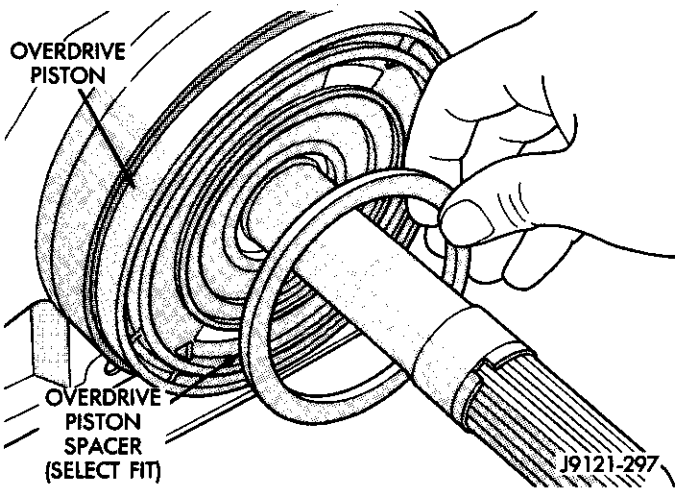

Fig. 1 Overdrive Piston Thrust Plate Removal/Installation
(1) Remove overdrive piston thrust plate (Fig. 1). Retain thrust plate. It is a select fit part and can be reused.